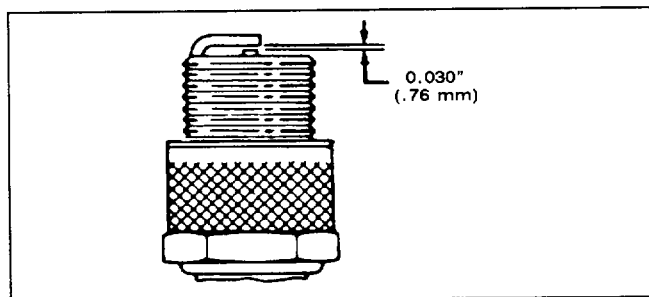

Figure 16
3. INSTALL SPARK PLUG — Set air gap (Fig. 16) between electrodes at .030" (.76 mm). Install plug and tighten to 15 ft-lb (20.4 N-m). If torque wrench is not used, tighten plug firmly with wrench by hand; **DO NOT OVERTIGHTEN**. Push wire onto spark plug and reinstall control panel.